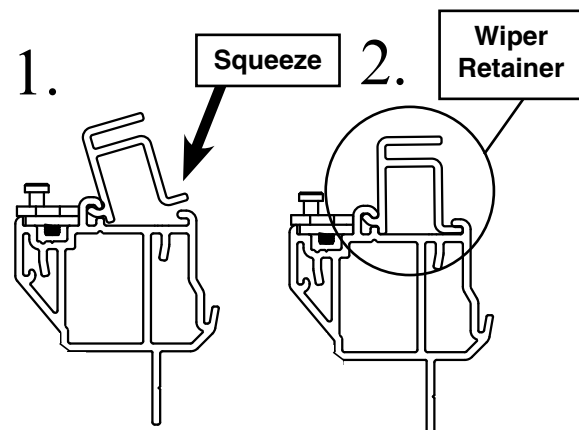

Figure 6-1
A. Install **front lip** (Fig. 6-1) of wiper retainer into plastic extrusion.